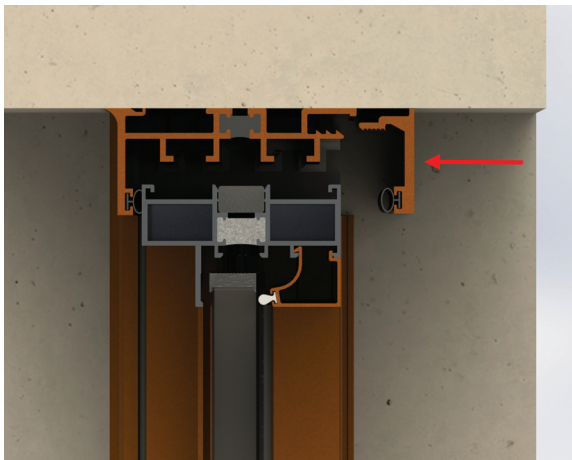

Fig. 18
- F. Measure opening and cut the head receptor closer clip. Trim weather strip to appropriate length using caution not to stretch material. (Fig. 18)